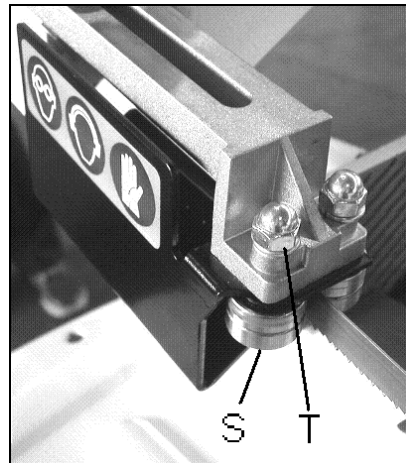

Fig 7
Loosen nut (T, Fig 7) and turn eccentric shaft (S) to adjust bearing to a clearance of 0,05mm. Tighten nut to lock.